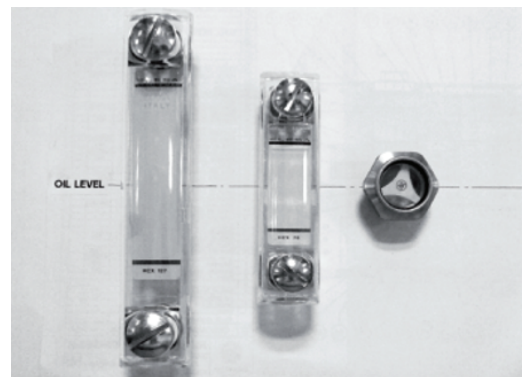

Figure 1: The ideal oil level is in the middle of the level indicator during operation.
19. Estimated oil quantities can be found in the manual provided with your extruder. Always verify that the level indicator on the gearbox indicates an adequate oil level. (see Figure 1)